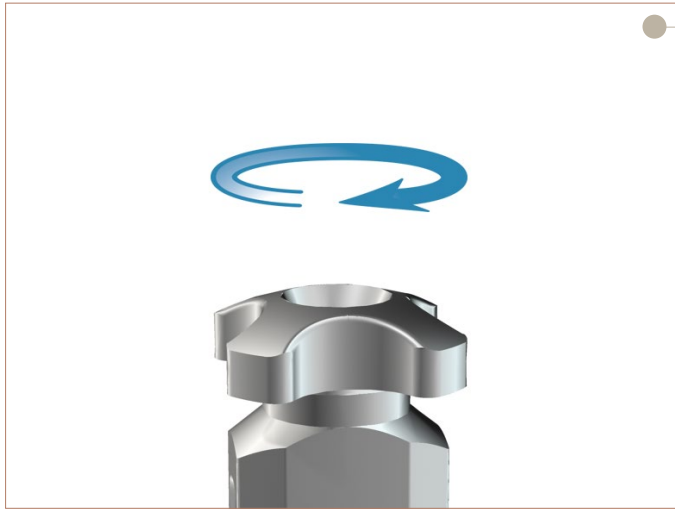

Figure 24
- ▶ While pressing down on the end of the inner barrel, tighten the knob at the end of the Baseplate Holder [Figure 24] to prepare the instrument to receive the Glenoid Baseplate implant.